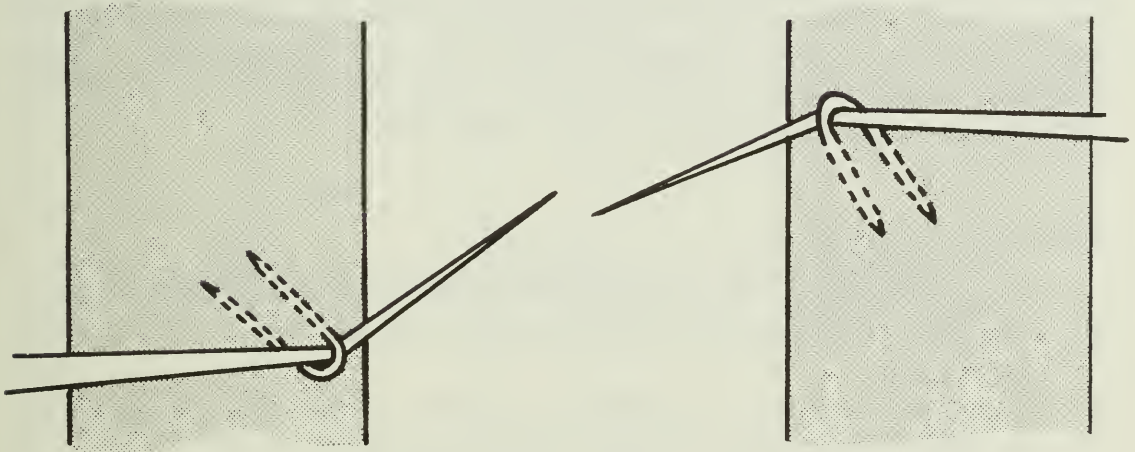

Fig. 38 Stapling rise or dip wires.
4. In dips, drive staples at an upward angle and on rises drive staples at a downward angle (Fig. 38). The wire is then pulling the staple in on the post instead of out.